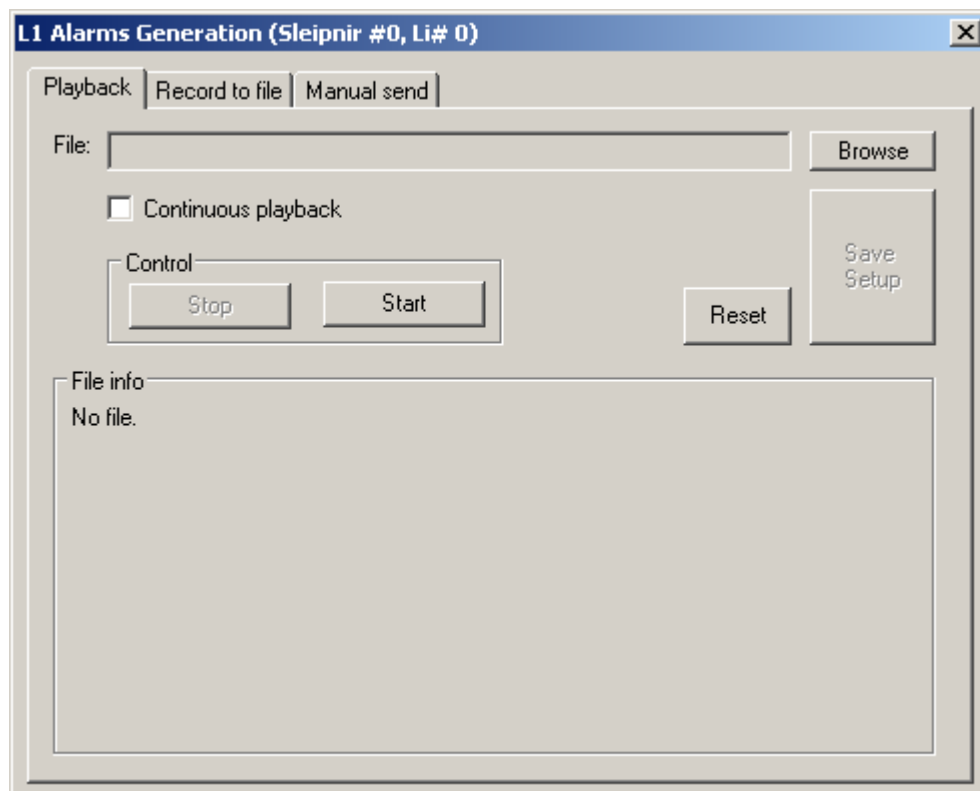

Figure 222
L1 Alarms Receiving (TX) dialog will be displayed (Figure 222).